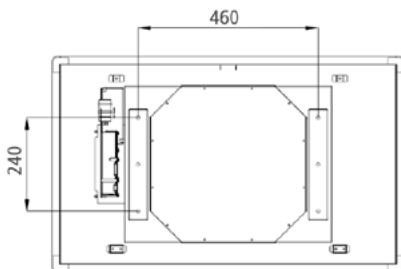

FIG.6
- › The recess shall be provided with a socket and a round pipe of 150mm diameter, or a similar section, for the air outlet. Drill the holes on the ceiling as shown in Fig.6.